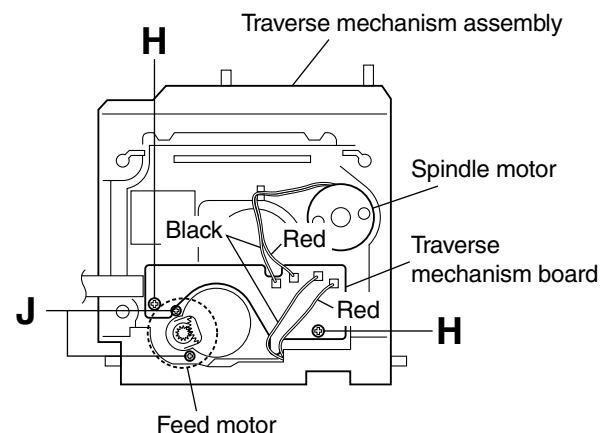

Fig.9
■ Removing the traverse mechanism board (See Fig. 9.)
■ Removing the feed motor (See Fig. 9.)